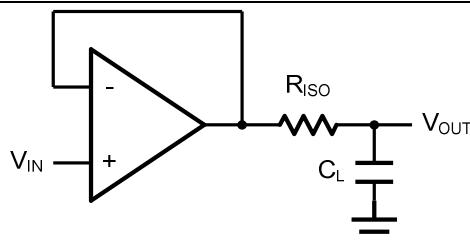
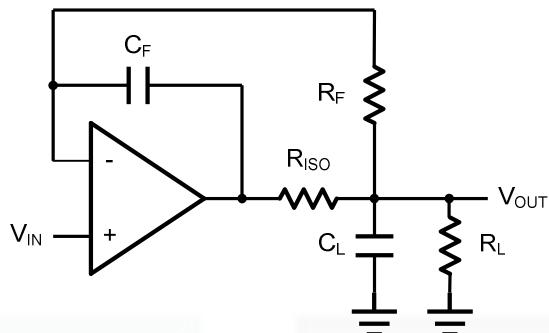

Figure 2. Indirectly Driving a Capacitive Load Using Isolation Resistor
Figure 3. Indirectly Driving a Capacitive Load with DC Accuracy
The HGV602X family is optimized for bandwidth and speed, not for driving capacitive loads. Output capacitance will create a pole in the amplifier's feedback path, leading to excessive peaking and potential oscillation. If dealing with load capacitance is a requirement of the application, the two strategies to consider are (1) using a small resistor in series with the amplifier's output and the load capacitance and (2) reducing the bandwidth of the amplifier's feedback loop by increasing the overall noise gain. Figure 2. shows a unity gain follower using the series resistor strategy. The resistor isolates the output from the capacitance and, more importantly, creates a zero in the feedback path that compensates for the pole created by the output capacitance.
The circuit in Figure 3 is an improvement to the one in Figure 2.  $R_F$  provides the DC accuracy by feed-forward the  $V_{IN}$  to  $R_L$ .  $C_F$